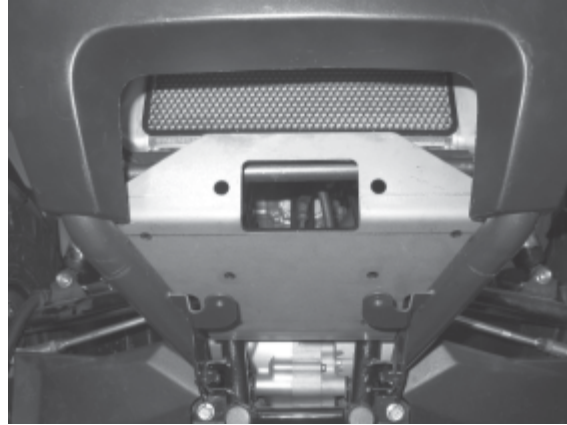

Figure 4 Place Winch Mounting Plate into Location
4. Rotate the mounting plate into location, Figure 4. Center the plate between the two front tube guards.